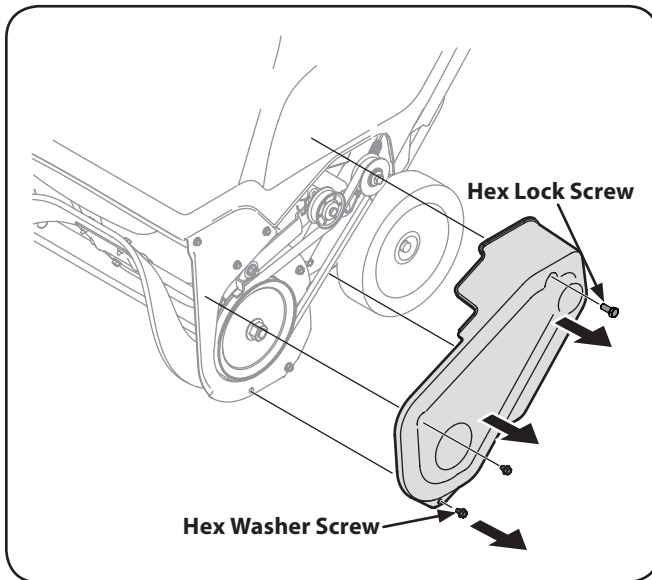

Figure 7-1
4. Remove the belt cover by removing the two hex washer screws and one hex lock screw that secure it to the frame. See Fig. 7-1.